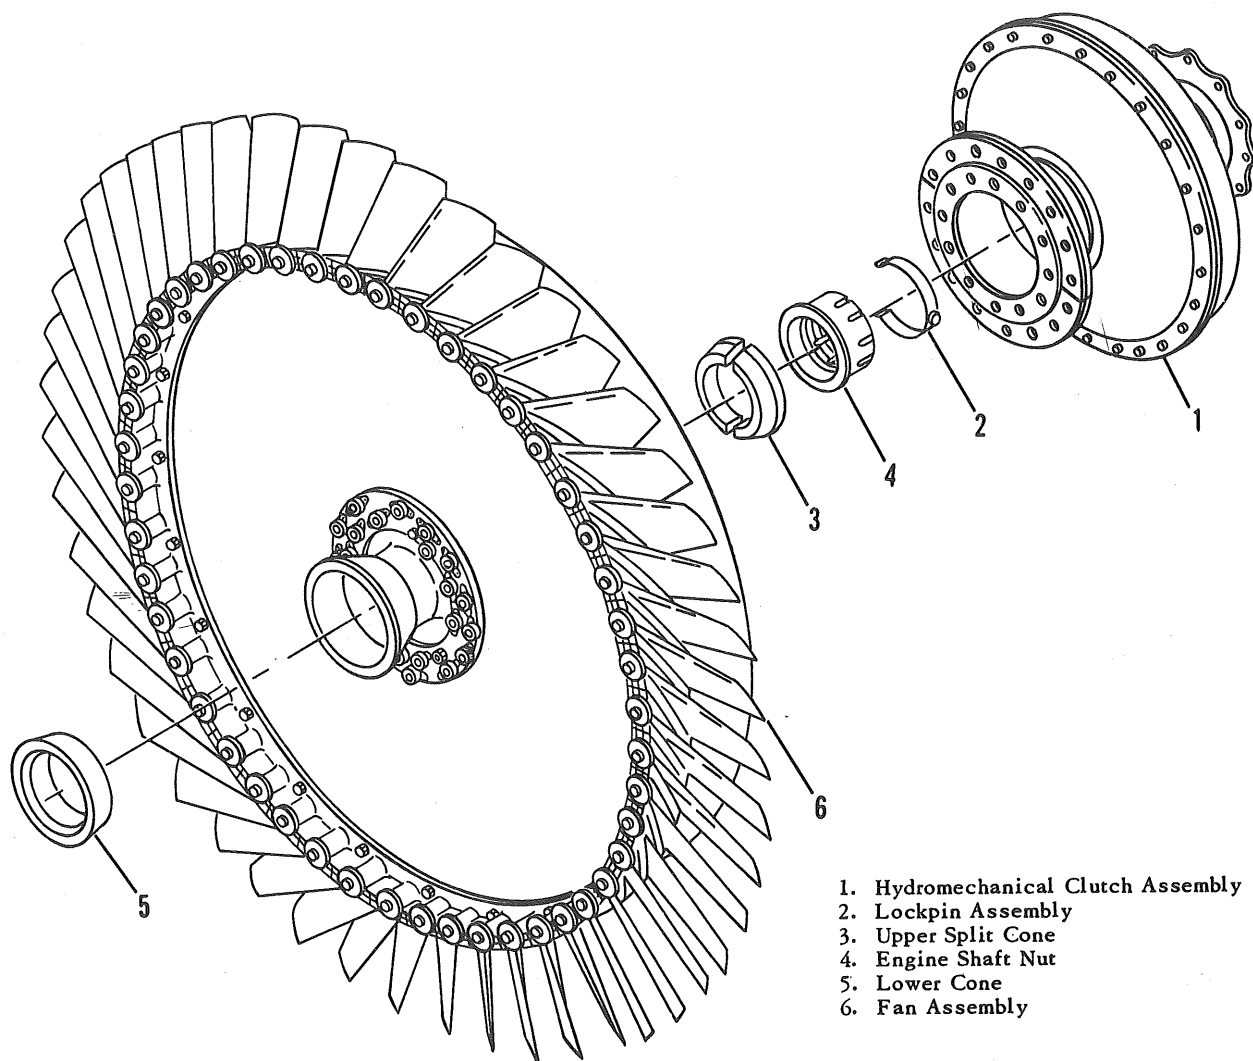

Figure 3-56. Hydromechanical Clutch and Fan Assembly
b. Peel protective wax carefully from cones (3 and 5, figure 3-56), engine shaft nut (4), and lock-pin assembly (2).
d. Install lower cone (5, figure 3-56) on propeller drive shaft with broad edge of cone bottomed on propeller drive shaft thread bearing nut.
e. Position fan assembly (6) on propeller drive shaft. Align splines and seat fan assembly on lower cone.
f. Install engine shaft nut (4) on propeller drive shaft and turn it part way down. Position each half of upper split cone (3) on flange of engine shaft nut. Hold upper split cone in position and turn engine shaft nut until upper split cone seats against inner surface of fan assembly hub.
i. Remove special tools. Strike flange of fan assembly hub with rawhide mallet. Replace special tools and recheck torque of engine shaft nut (4, figure 3-56). Repeat this procedure until there is no decrease in torque after striking hub.
k. Insert stud of lockpin assembly (2) in hole in propeller drive shaft aligned with one of wrench slots in engine shaft nut (4). Compress ends of lockpin spring, position ends inside shaft, and release spring. Bent ends of spring will fall into two other holes in propeller drive shaft.
m. Clean mating surface of flange coupling on bottom of hydromechanical clutch (1), hub of fan assembly (6), fan disc, and two-piece clamping ring.
n. Position hydromechanical clutch (1) on fan assembly (6). Install two-piece clamping ring on upper surface of flange coupling. Install nut on each of nine inner bolts to secure clamping ring. Tighten nuts to a torque of 360 to 385 inch-pounds.